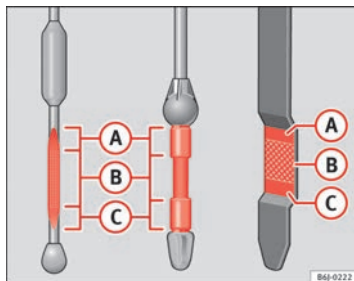

Fig. 133 Engine oil dipstick
- Then pull it out once more and check the oil level ⇒ fig. 133. Top up with engine oil if necessary.